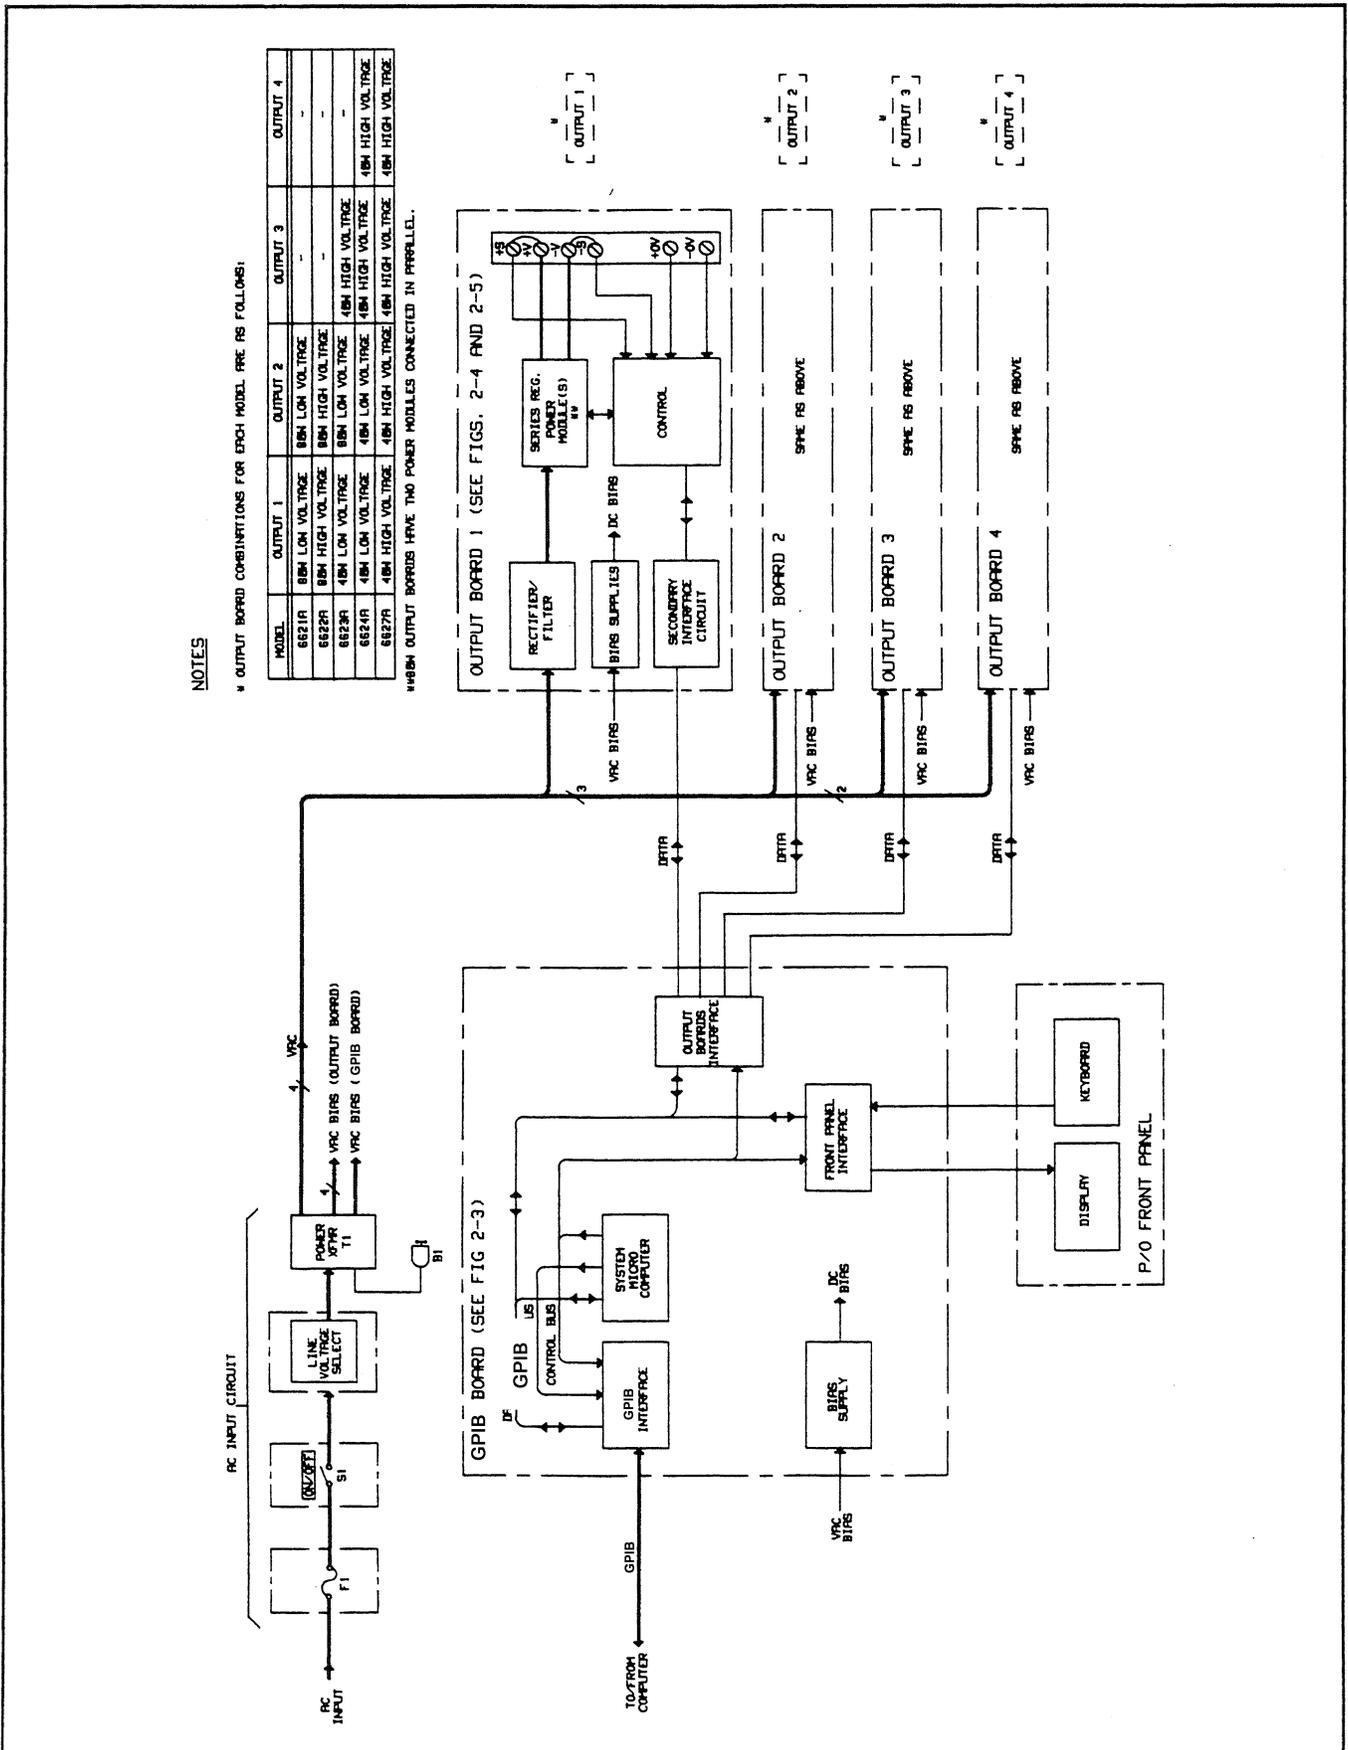
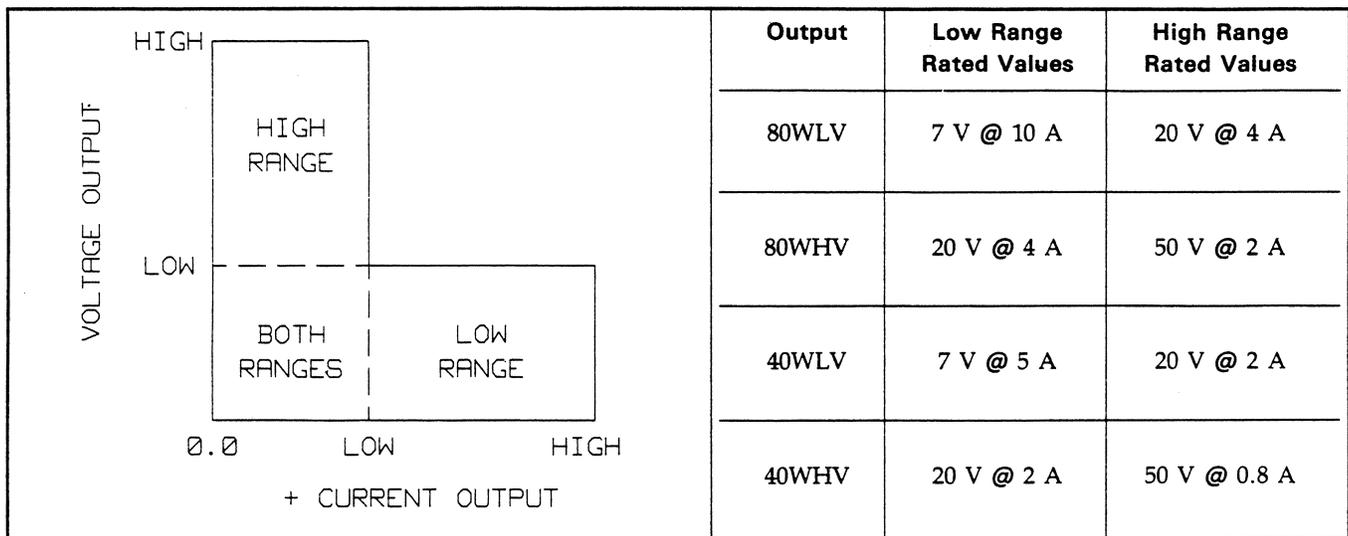

Figure 2-1. Agilent 6621A-6624A and 6627A Multiple Output Power Supplies, Block Diagram
Figure 2-2. Output Operating Ranges for the Agilent Models 6621A-6624A and 6627A
#### 2-2 OVERALL BLOCK DIAGRAM DESCRIPTION (FIGURE 2-1)
Figure 2-1 is a block diagram that illustrates the major assemblies contained within the power supply. As shown in the figure, each supply includes ac input circuits, an GPIB board, front panel display and keyboard, and two or more output boards.
Each power supply model contains two or more (up to four) output boards. The output combinations that correspond to each model are shown in Figure 2-1. Each isolated output can supply power in two ranges as shown in Figure 2-2. This flexibility allows you to use the same output to power loads with different voltage and current requirements. The output ranges and operating characteristics of each output are described in greater detail in Section IV of the Operating Manual.
As shown in Figure 2-1, each output board contains a rectifier/filter, power module, control circuit, secondary interface circuit, and bias supplies. Note that each 80 W output board has two power modules connected in parallel.
The following paragraphs provide block diagram level descriptions of the output board. The descriptions cover the four output board types (40WLV, 40WHV, 80WLV, and 80WHV). Differences between the board types are given as required. Figure 2-1 shows which output board types are used in each model.
**2-35 Rectifier and Filter.** These circuits consist of two full-wave bridge rectifier circuits with filter capacitors connected across the rectifier outputs. The proper ac voltage levels are applied to the rectifiers via secondary windings of chassis power transformer T1 (see Figure 2-1). The rectifiers provide raw dc to the power module at three different levels (high, medium, and low power rails). The return line for the rectifier circuits is fuse protected. If this fuse opens, the power supply will fail self test, all outputs will be disabled, and the error message "FUSE CH < n > " will be displayed (where n specifies the particular output board, 1-4).